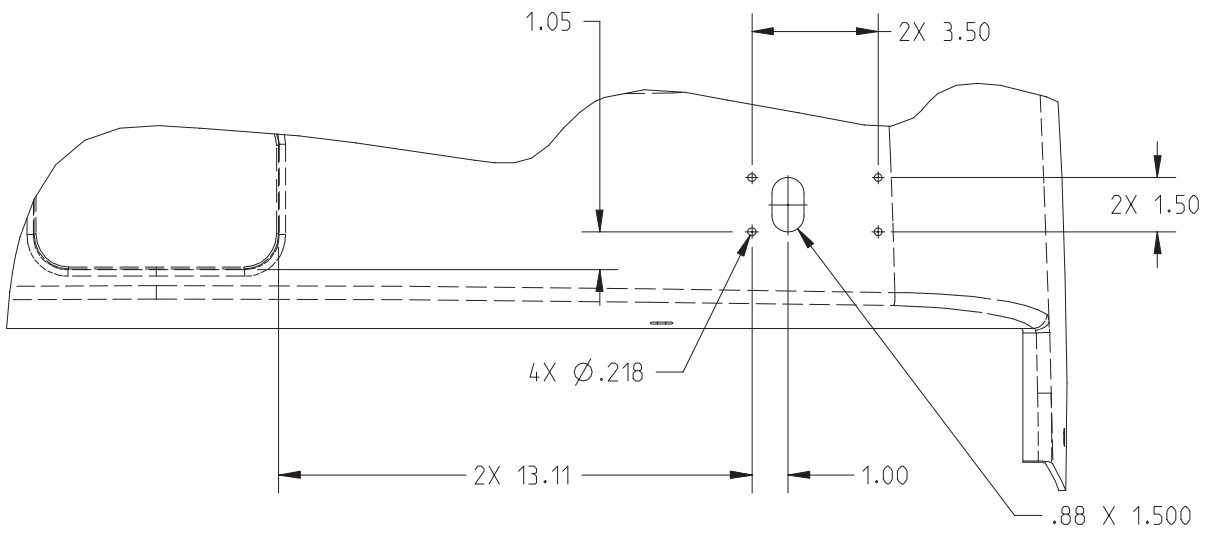

Figure 9
21. Using the dimensions shown in Figure 9, locate, mark, and drill (4) .218" dia. holes and a 7/8 x 1-1/2 inch slot in the front hood, just below one of the the headlights.